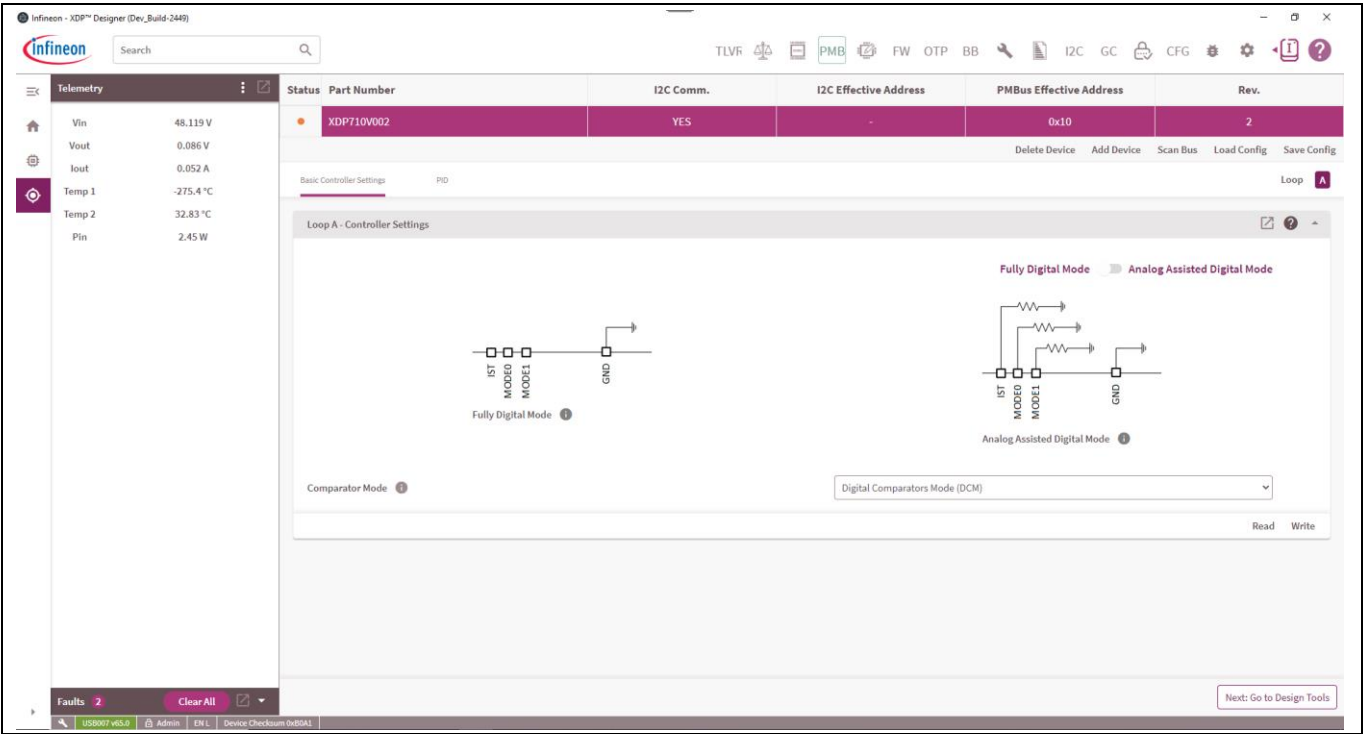

Figure 22 Live telemetry of the connected XDP710-002
- The detected device will be XDP710V002, with the **Telemetry** displayed on the left as shown in Figure 22.